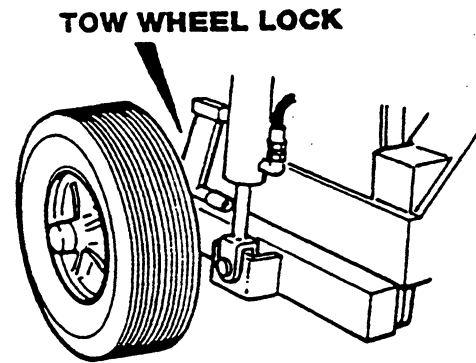
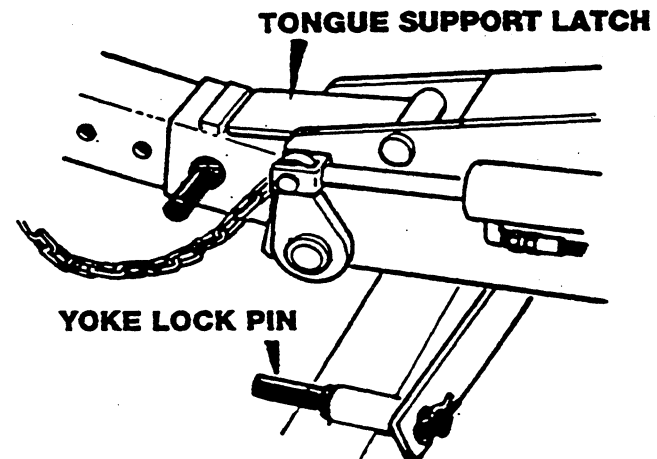

FIGURE 2
FIGURE 3
6. From the driver's position, use tongue cylinder valve lever and extend tongue cylinder to full extension. This will lift front drum off the surface. The front roller drums should be a minimum of 6" off the ground. Now use tow wheel cylinder valve lever and extend towing wheels to full extension. This will lift the rear drum off the surface. While the roller is in this position, dismount and engage towing wheel lock on both sides of the roller, rotate tongue support latch into position, and insert yoke lock pin on yoke. See figure 2, 3 & 4.
7. From the driver's position **TURN OFF ROLLER ENGINE.** Slowly release pressure on towing wheel extension cylinders, and lower roller until wheel locks are in the lock position. See figure 2. Now slowly release pressure on tongue extension cylinder until tongue support latch is in positive lock position. See figure 3.
When following unhooking procedures refer to figures 2; 3 & 4.
Figure 2 shows the location of plugs "A" and "B" which can be used to fill, check or drain the oil from the hub.
To check the oil level move the machine to level ground and position either plug "A" or "B" in the 10 o'clock position as shown in figure 3. To remove the plug, you must reach under the skirt of the machine. The oil level should be even with the bottom of the plug.